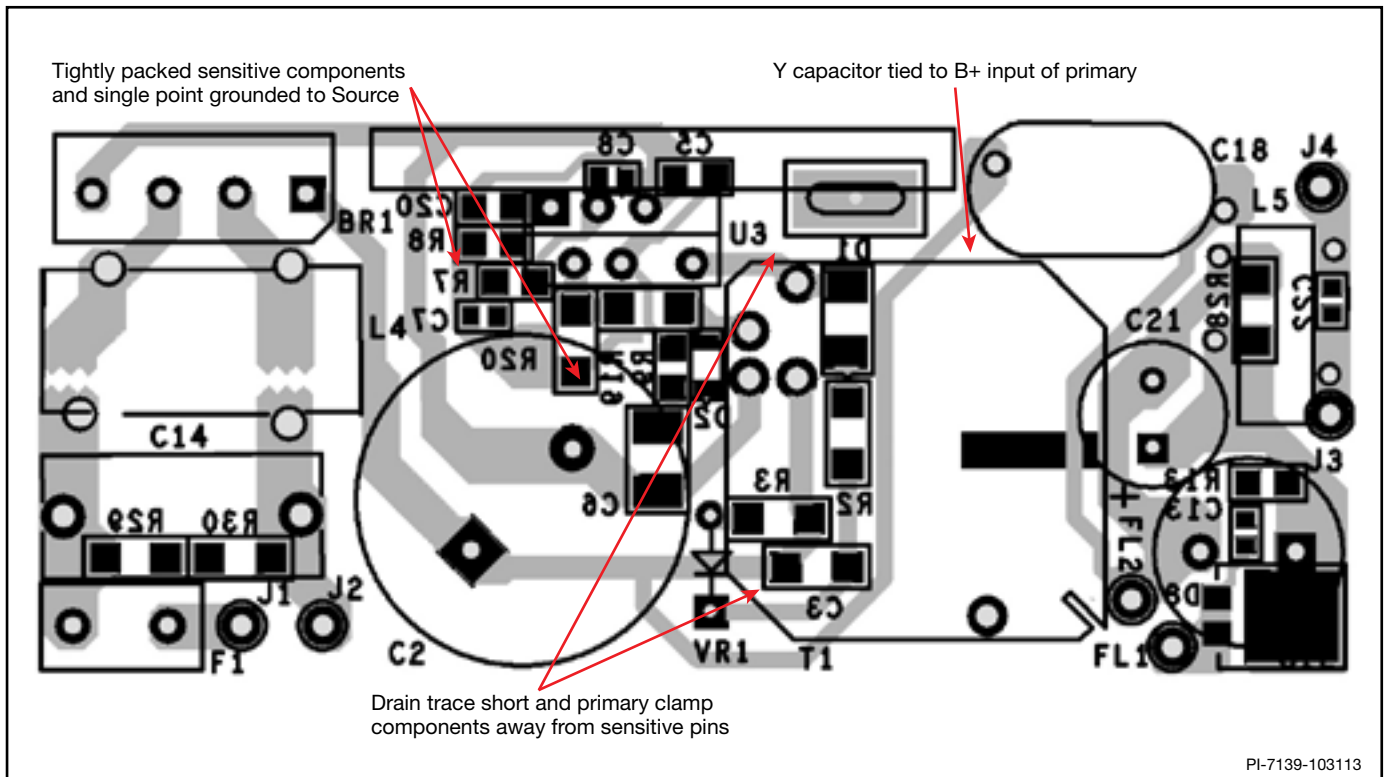

Figure 40. Layout Example of a 30 W Adapter Using eSIP Package, see Figure 47 for the Schematic.
- Wrap the ground trace around sensitive components to act as a Faraday shield. See Figure 40.